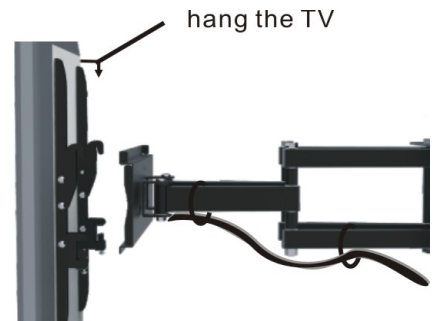

Figure 5
- 1 Hang the display plate onto the top of the wall plate and slip onto the wall plate as shown (Figure 5).
- 5 Secure the cables from your LCD TV / Monitor using the supplied cable ties (Figure 5 & Figure 9).